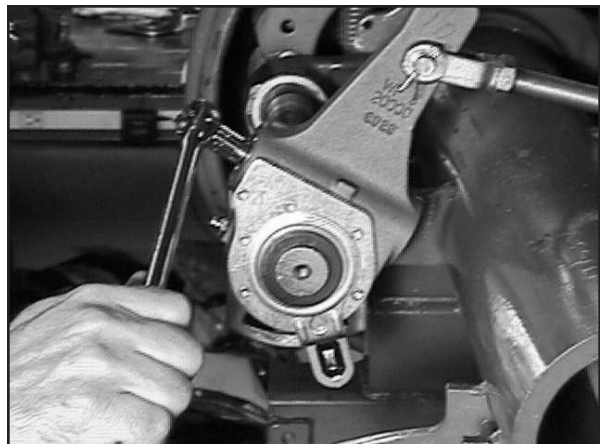

Figure 12
- Then, back-off the adjuster by turning the adjusting hex counter-clockwise 1/2 of a turn (fig. 12).